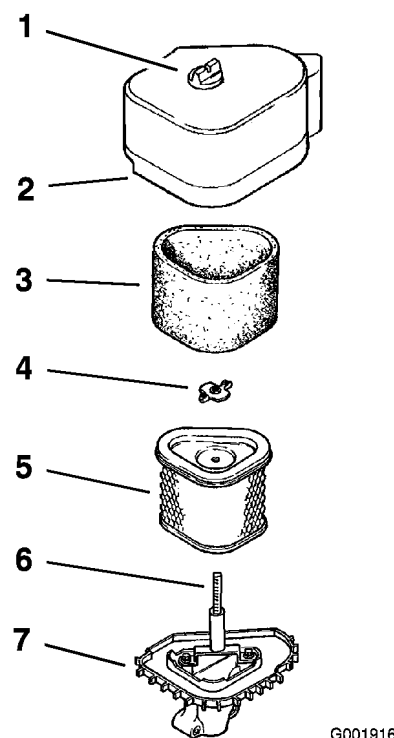

Figure 28
- Clean around the air cleaner to prevent dirt from getting into the engine and causing damage (Figure 28).
- Unscrew the cover knob and remove the air cleaner cover (Figure 28).
- Remove the wing nut and remove the air cleaner assembly (Figure 28).
- Carefully pull the foam element off the paper element (Figure 28).
1. Do not clean the paper filter. Replace it after 100 operating hours (Figure 28).
1. Carefully slide the foam element onto the paper air cleaner element (Figure 28).
2. Place the air cleaner assembly onto the air cleaner base and secure it with the wing nut (Figure 28).
3. Place the air cleaner cover into position and tighten the cover knob (Figure 28).